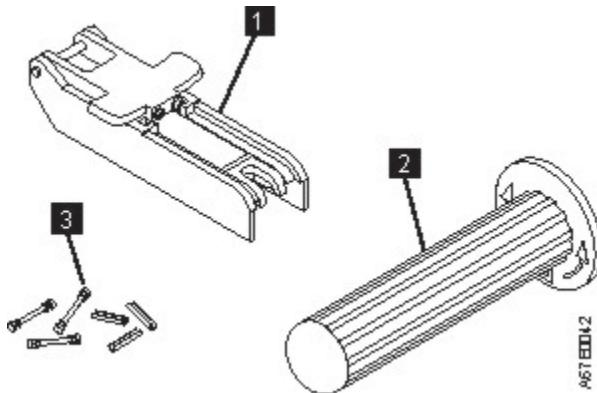

Figure 105. Leader pin reattachment kit
- **Leader pin attach tool** (See 1 in Figure 105 on page 232). A plastic brace that holds the cartridge door open.
- **Cartridge manual rewind tool** (See 2 in Figure 105 on page 232). A device that fits into the cartridge's hub and enables you to wind the tape into and out of the cartridge.
- **Pin supplies** (See 3 in Figure 105 on page 232). Leader pins and C-clips.